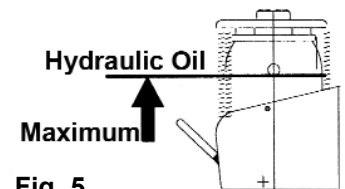

Fig. 5
3.2.2 Ensure that the oil is just below the level of the filler plug. Refer to Fig. 5. If necessary, replenish with Sealey hydraulic jack oil. Refer to Section 1. **DO NOT OVERFILL.**